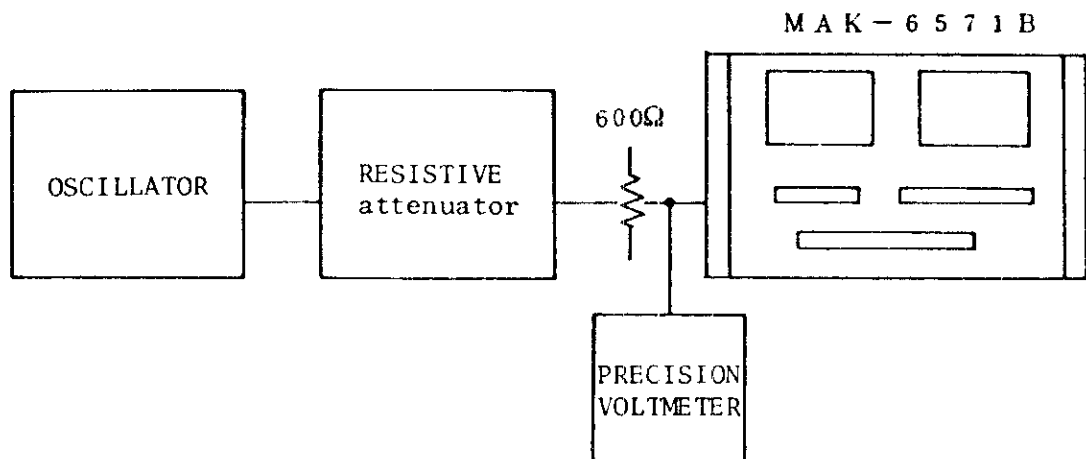

Fig. 7-1
As shown in Fig. 7-1, connect an oscillator, resistive attenuator, and accurate AC voltmeter to the MAK-6571B. Set up the front panel controls as follows:
As shown in Fig. 7-1, connect an oscillator, voltmeter, and resistive attenuator to the MAK-6571B and set up the front panel controls as follows:
- (7) As shown in Fig. 7-1, connect an oscillator, precision voltmeter, and resistive attenuator to the MAK-6571B, setting the front panel controls as follows: